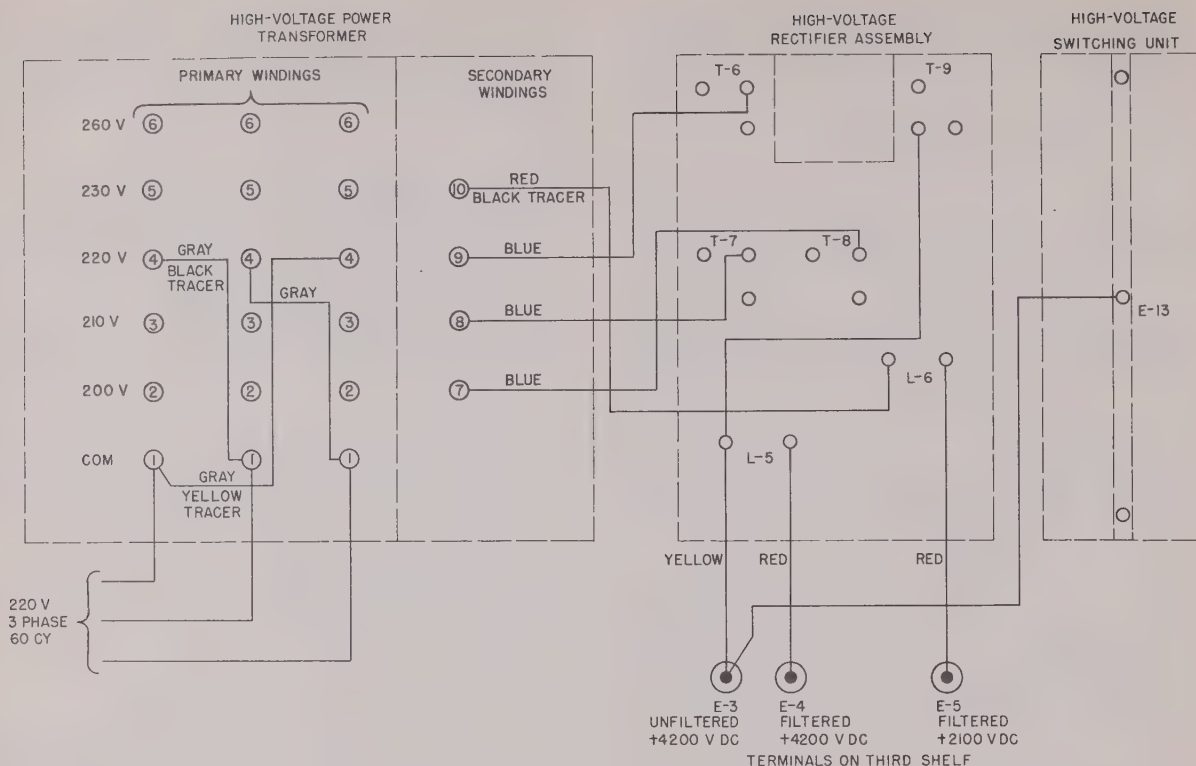

Figure 22. Connections between high-voltage transformer, high-voltage rectifier, and switching unit. (Applicable to rectifier system shown in Figure 94).
(3) Make connections to the terminals at the rear of the transformer as shown in figure 22. (Different method in fig. 92).
(1) Place the h-v rectifier assembly on the top shelf, about three-fourths of the way in, with the tube sockets toward the front and the connector jack (J-2) at the right rear of the cabinet.
(2) Connect the leads from the high-voltage transformer and the high-voltage terminals to the terminals on the components within the rectifier chassis, as shown in figure 22. These leads come up through the shelf from the bottom to the under side of the rectifier assembly.
(3) Locate the h-v rectifier assembly so that the four nuts in the bottom flange line up with the four holes in the shelf.
(4) Insert four screws through the shelf from the bottom into the nuts in the flange on the chassis. Tighten the screws securely.
(5) Insert the plug (P-2) into the jack (J-2) so that the key and the keyway line up. Screw the rotating collar on the plug down onto the jack as far as it will go.